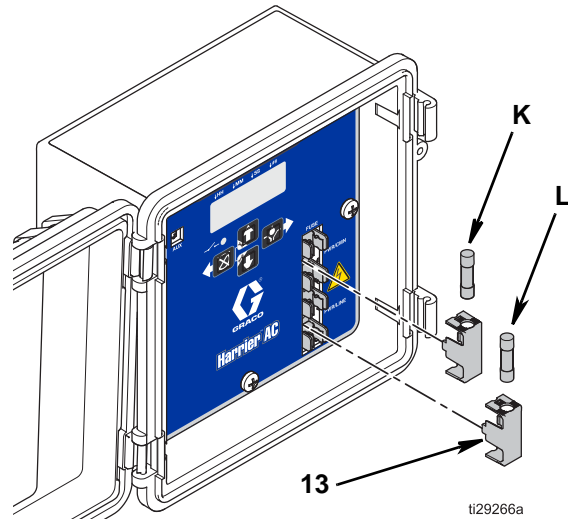

FIG. 14 Install fuses
1. Install the supplied fuses (K and L) with the fuse holders (13). See FIG. 14.